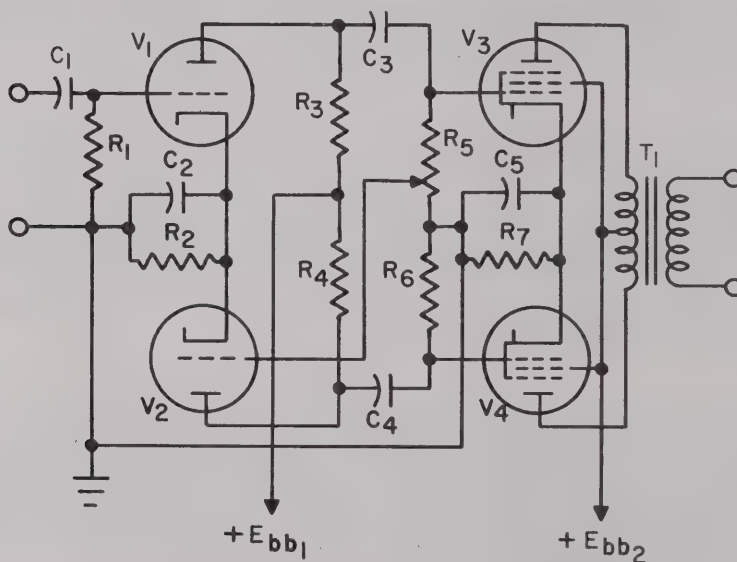

Figure 24
A circuit using this method is shown in Figure 24. The output voltage of V_1 is applied to the grid of V_3 through coupling capacitor C_3 . A portion of the output voltage of V_1 is also applied to the grid of V_2 from the movable contact of potentiometer R_5 . The output voltage of V_2 is applied through coupling capacitor C_4 to the grid of V_4 .
60. In the circuit shown in Figure 24, is the signal at the grid of V_2 in phase or 180° out-of-phase with the signal at the plate of V_1 ?